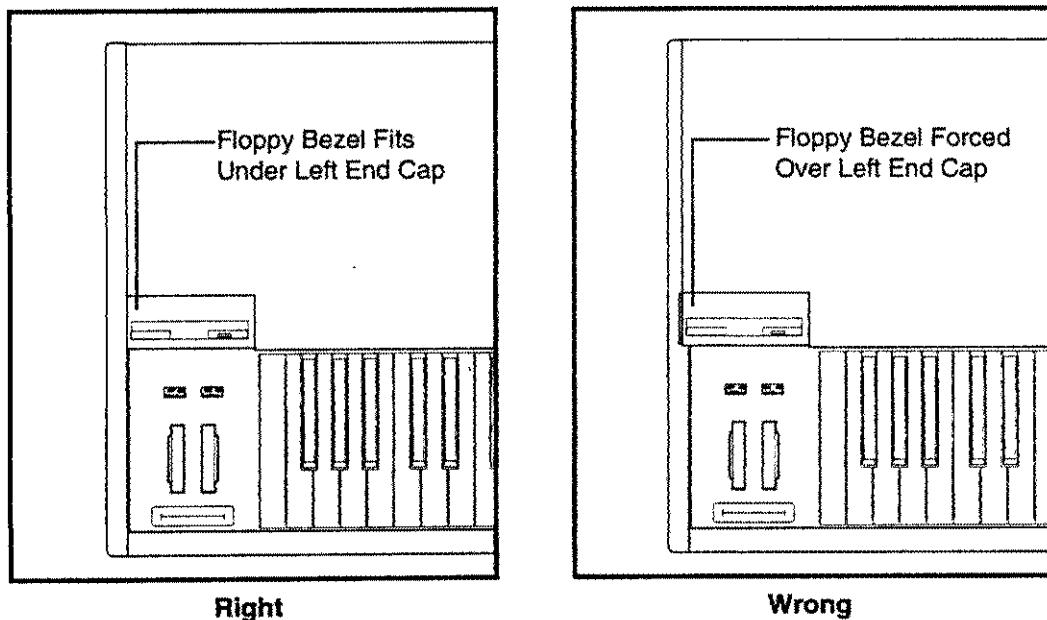

Figure 17.
1. When you have completed all connections, tilt the top cover back onto the body of the K2500. First, slide the left end into place, making sure to fit the Floppy Disk Bezel under the left end cap. Figure 17 illustrates the right and wrong way to fit the Floppy Disk Bezel.